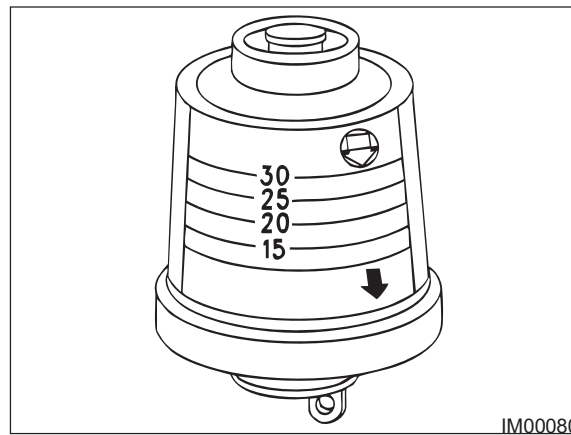

Fig: 11.17 - Service Indicator
2. Observe the service indicator (Fig: 11.17). The air cleaner element shall be cleaned or the air cleaner element shall be replaced when one of the following conditions occur: